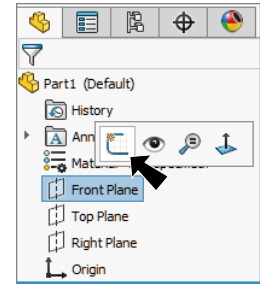

Fig. 1
Step 2. Click **Front Plane**  in the Feature Manager and click **Sketch**  from the context toolbar, **Fig. 1**.